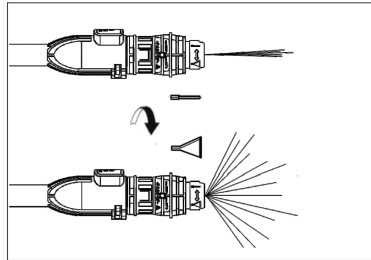

Figure 9: How to adjust the dispersal pattern on the adjustable nozzle.
- To adjust the spray width and pressure, release the Trigger (2) on the Trigger Gun (1) to stop the high pressure water flow. Twist the Adjustable Nozzle (6) to change the dispersal pattern as shown in Figure 9. Do not adjust this whilst the Trigger (2) is pressed as this may cause injury to the user and damage to the pressure washer.
- If the pressure washer will not be used for a period longer than 5 minutes, engage the Safety Lock (3), switch OFF the pressure washer, and disconnect the pressure washer from the electrical mains supply.